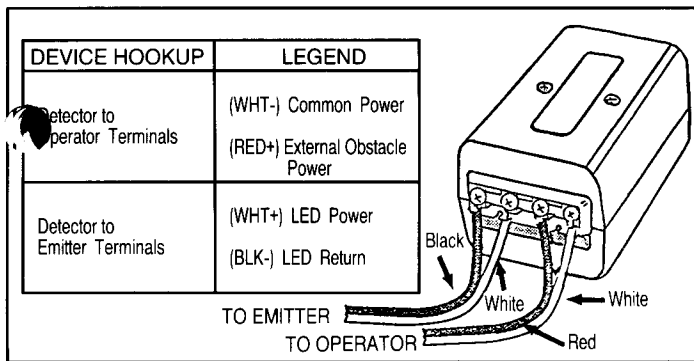

Figure 24
Step 40: Attach black striped wires to detector, run up and over the door to the terminals on the emitter. Attach wires to emitter terminals by color as shown on label. (See Figures 24). Use insulated staples to fasten wires to walls surrounding garage door.